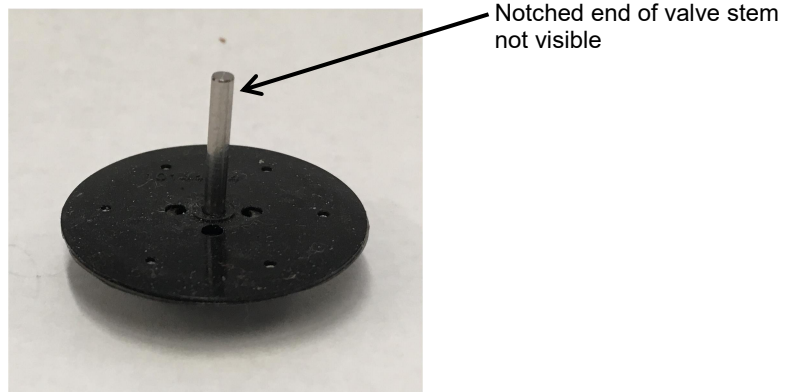

Figure 4
- c. If the notched end of the valve stem is not visible (reference Figure 4), follow steps 8 through 17 of the Procedure to re-install the exhalation valve. See Attachment 2.